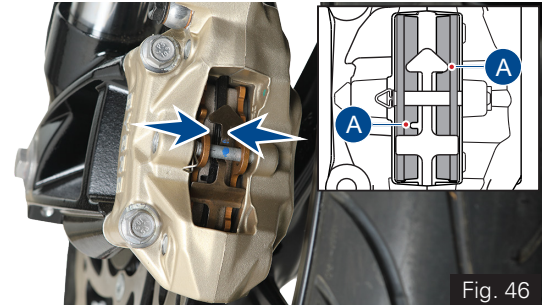

Fig. 46
- If the wear is found beyond the wear indicator (A & B) groove as shown in the figure in any one of the pad, replace brake pads as a set with a new one. (ref. Fig. 46 & 47)